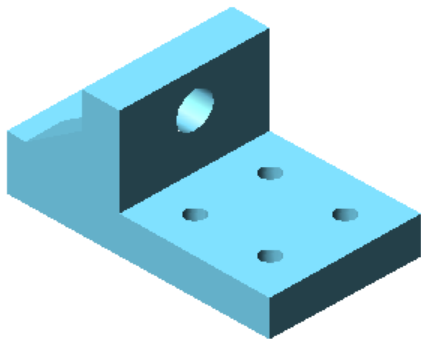

Figure Step 2A
Step 2 Using the SOLIDEDIT command only, edit the solid to appear as in the figures. (Figure Step 2A, 2B, and 2C)